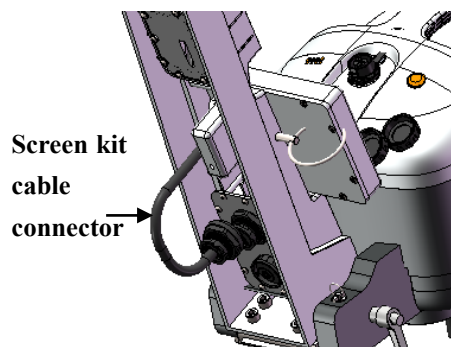

Figure 6-7
- Lift the control handle and unplug the **screen kit cable connector** located underneath the handle, as shown in Figure 6-7.